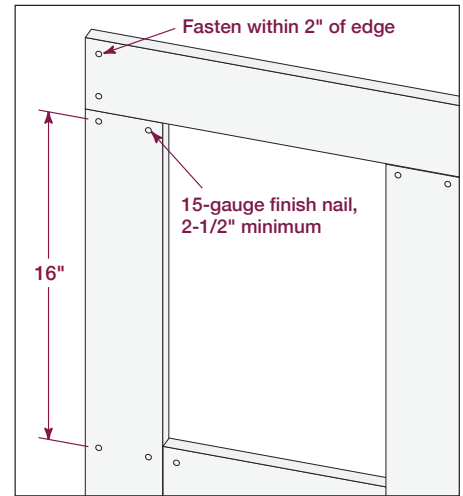

Fig. 4
- When installing TruExterior Trim, allow the top trim pieces to extend to the edges of the vertical trim pieces. The bottom trim should fit between the two vertical side pieces (**Fig. 4**).
- Nail the trim pieces in place within 2 inches of the edge of the trim piece using approved fasteners (**Fig. 4**)